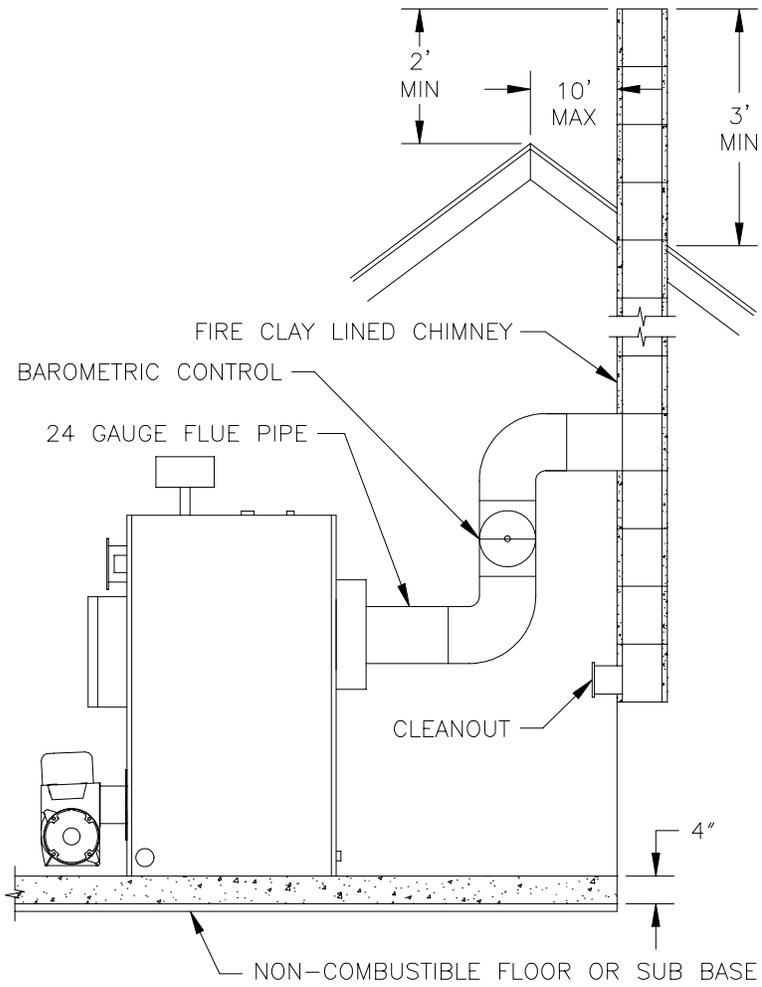

Figure 6: Recommended Smokepipe Arrangement and Chimney Requirements
G. INSTALL SMOKEPIPE— The HF should be vented into a fireclay tile-lined masonry chimney or chimney constructed from type L vent or a factory built chimney that complies with the type HT requirements of UL103. The chimney and vent pipe shall have a sufficient draft at all times, to assure safe proper operation of the boiler. See Figure 6 for recommended installation.